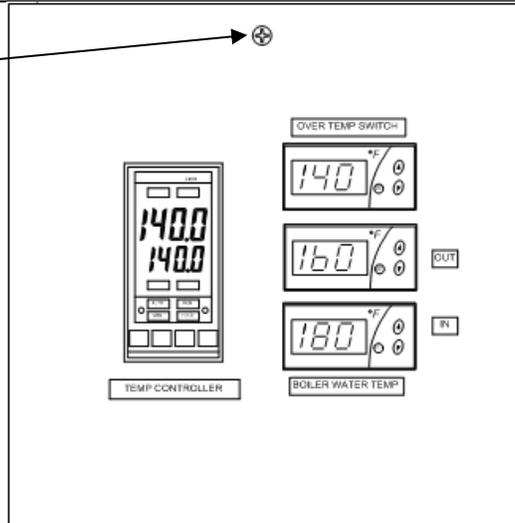

Figure 2-5. Recessed Panel Behind ECS/SP Control Box Door
2. Open the door and loosen the captive screw at the top of the recessed panel (Figure 2-5).